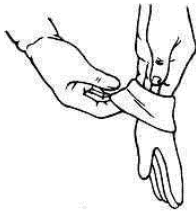

Figure 1
Before handling the Reflecting Screen (H), put on the supplied pair of White Gloves (G) to avoid leaving fingerprint marks, dust or oil from your hands on the surface of the material (Figure 1). The Reflecting Screen (H) is very delicate and should be handled with extreme care. Do not allow the material to fold or bend. Failure to follow instructions will result in permanent damage to the screen material, which is not covered by warranty.
1. Remove the **Reflecting Screen (H)** from the packaging tube and set it gently on a clean surface.